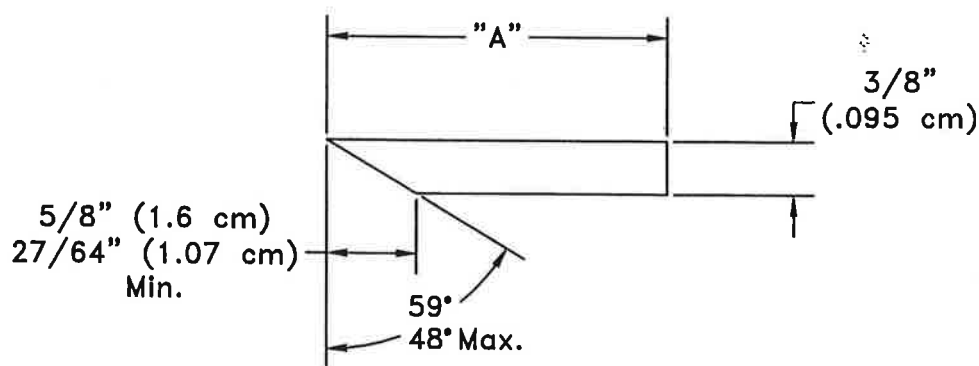

Figure 6
- f) Lay the knife on the knife shelf. Insure the knife is installed with the **cutting angle edge facing down** as shown in Figure 6. Install loosely the two outer, and the middle knife mounting bolts. Tighten the mounting bolts just enough to hold the knife in position while still allowing it to be moved.